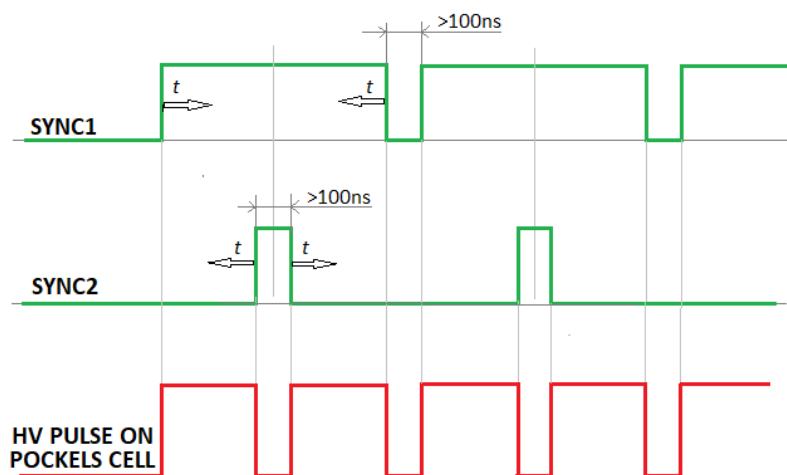

Figure 5. Control 2DPB3 drivers with frequency doubling
1. Operation with frequency doubling. Output pulses to Pockels cell appear double frequency as any of trigger input. Figure 5 presents the principle. SYNC1 and SYNC2 are triggering inputs. Corresponding outputs OUT1 and OUT2 of the driver repeats the time scale of SYNC inputs and presents amplitude in kV. Resulting HV pulse on Pockels cell appears as difference of these two outputs. Pulse duration to Pockels cell is tuned by shifting SYNC input's edges toward directions marked by arrows t simultaneously. The width of pulse SYNC1 must to be about 0.5 period or longer. The pulse duration can be tuned down to 0 unlike as in regular Pockels cell drivers.